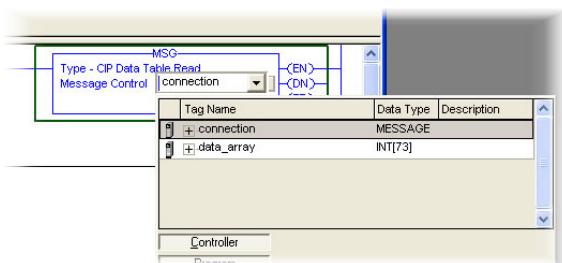

Figure 104: MSG Instruction Tag Assignment
- a) Edit the "Message Control" field on the MSG instruction to use the previously-created "connection" tag. Refer to Figure 104.